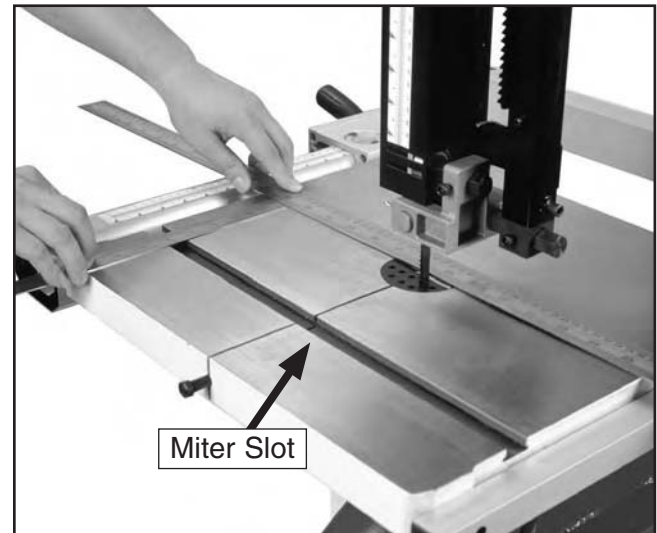

Figure 23. Squaring miter slot to blade.
3. Use a fine ruler to gauge the distance between the blade and the miter slot as shown in **Figure 23**. The distance you measure should be the same at both the front and the back of the table.